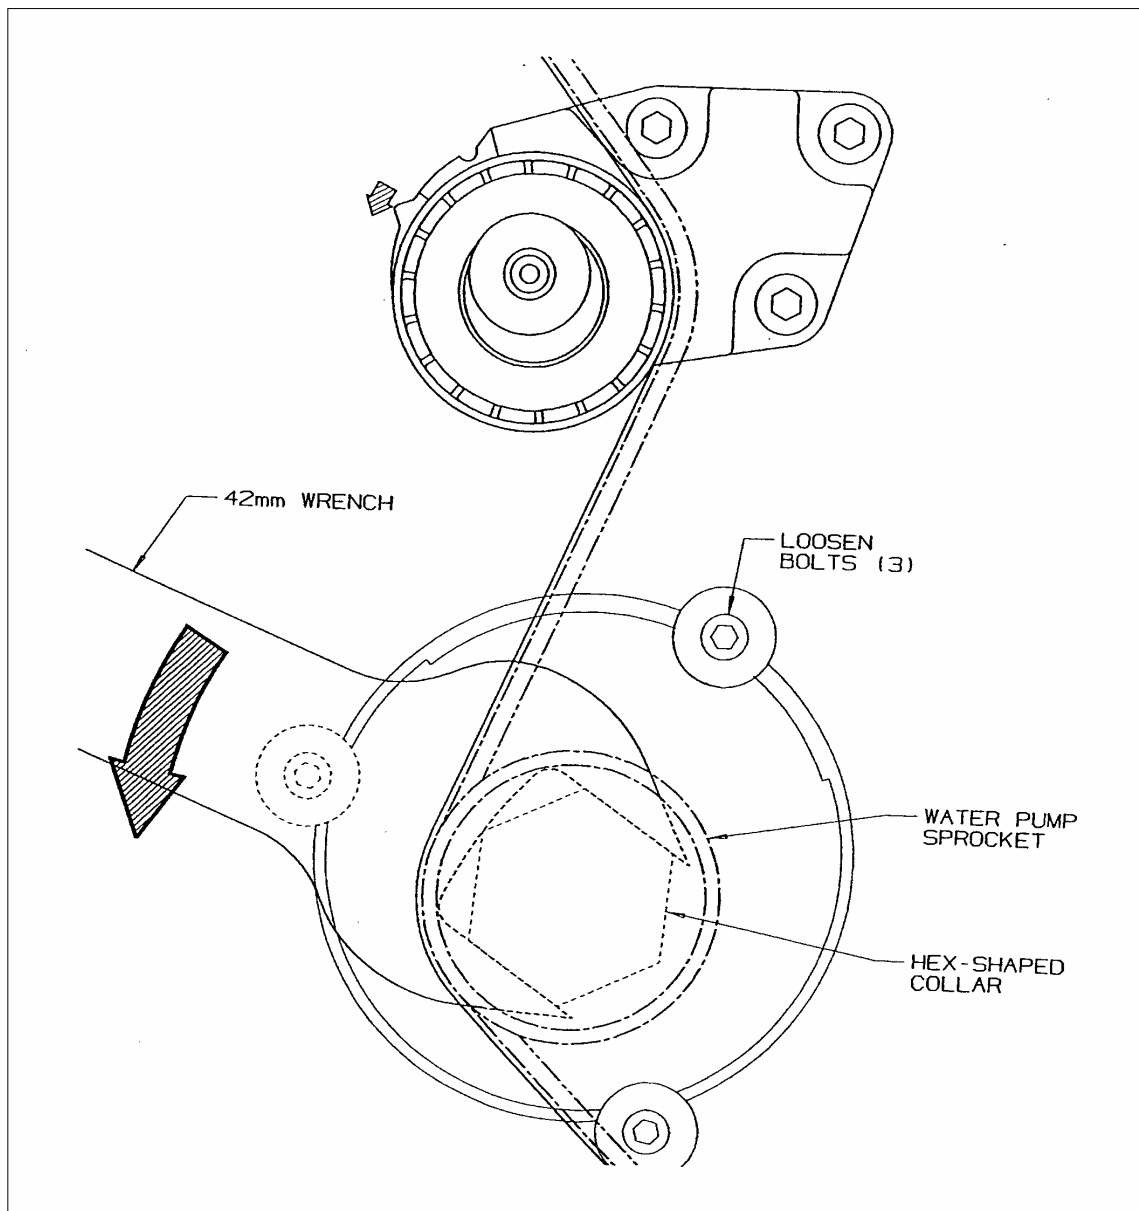
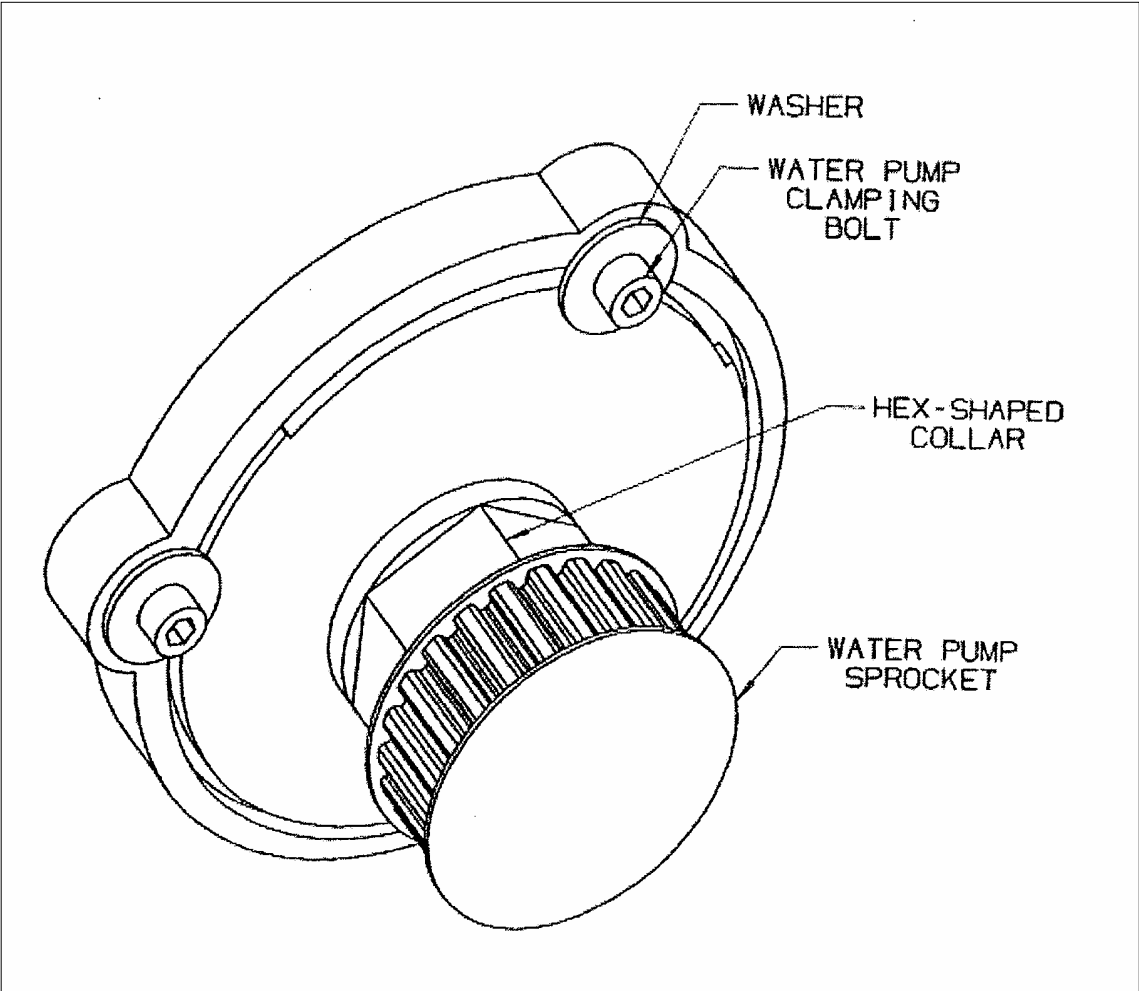

Figure 2: Rotating Water Pump Housing for Timing Belt Removal
Figure 3: Water Pump Housing
3. Loosen the three (3) Water Pump Clamping Bolts just slightly so that the Water Pump Housing can be rotated (Figure 2).
4. Rotate the Water Pump Housing COUNTERCLOCKWISE with a 42mm Wrench (Figure 2). The Wrench should fit around the Hex-shaped Collar beneath the Water Pump Sprocket (Figure 3).